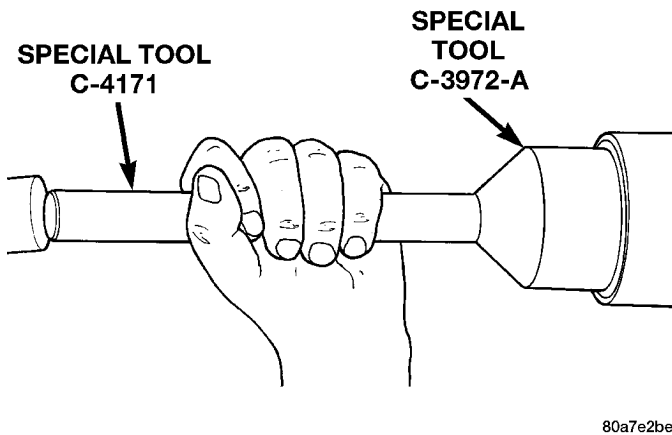

Fig. 49 Pinion Seal Installation
(5) Apply a light coating of gear lubricant on the lip of pinion seal. Install seal with Installer C-3972-A and Handle C-4171 (Fig. 49).